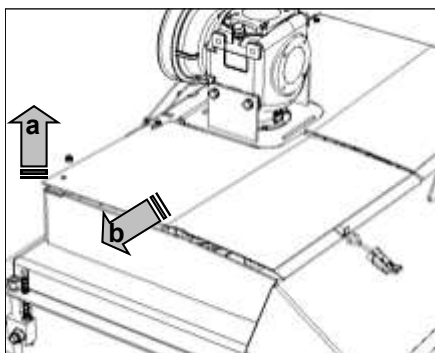

Fig. 39
6. Lift the outside of the cover off the stud (Fig. 39, a).